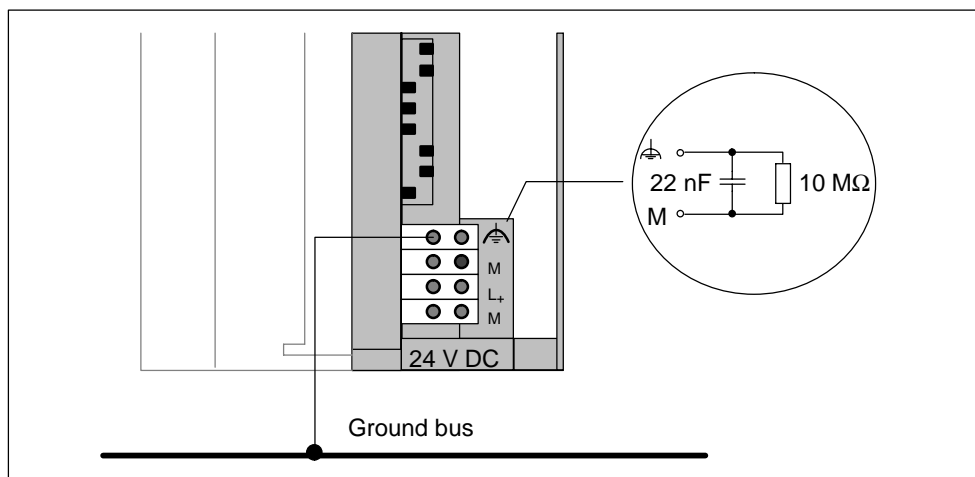

Figure 5-3 Configuring the ET 200M with ungrounded reference potential
When the ET 200M is configured with ungrounded reference potential, any interference current is diverted to the protective conductor via an RC network integrated in the IM 153-x (see Figure 5-3).
Figure 5-3 shows the configuration of an ET 200M with the IM 153-x with ungrounded reference potential. If you do not want to ground the reference potential, you must remove the jumper **on the IM 153-x between the M terminals and functional ground**. If the jumper is not in place, the reference potential of the ET 200M is connected internally to the protective conductor via an RC combination and via the rail. This discharges radio-frequency interference current and precludes static charges.
- In configurations with ungrounded reference potential (jumper between M and functional ground removed, see Figure 5-3), an internal electronic fuse which regenerates after approx. 30 seconds is triggered in the event of polarity reversal.